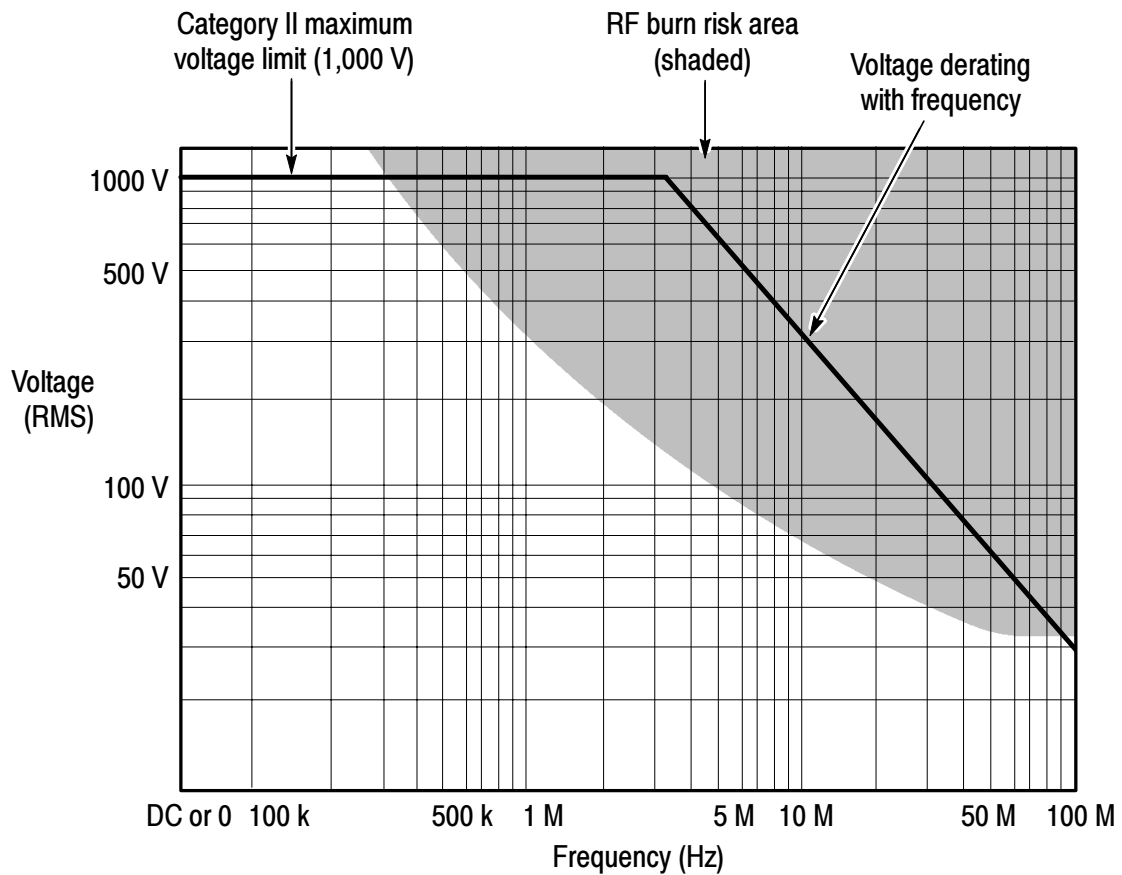

Figure 2: Safety Limits (voltage between either input and earth ground)
WARNING. To avoid personal injury, do not handle the probe leads when the leads are connected to a source that is above the voltage and frequency limits given in Figure 2 on page 11. The area above these limits poses a risk of radio frequency (RF) burns.
CAUTION. To avoid damaging the input circuitry of the P5205 probe, do not apply a voltage that is more than 1,000 V_{RMS} CAT II between either input and ground or more than 1,300 V (DC + peak AC) between the two inputs. Above 3 MHz, the voltage limit decreases as frequency increases. See Figure 2 on page 11. The input limit applies to both the 50X and 500X settings.